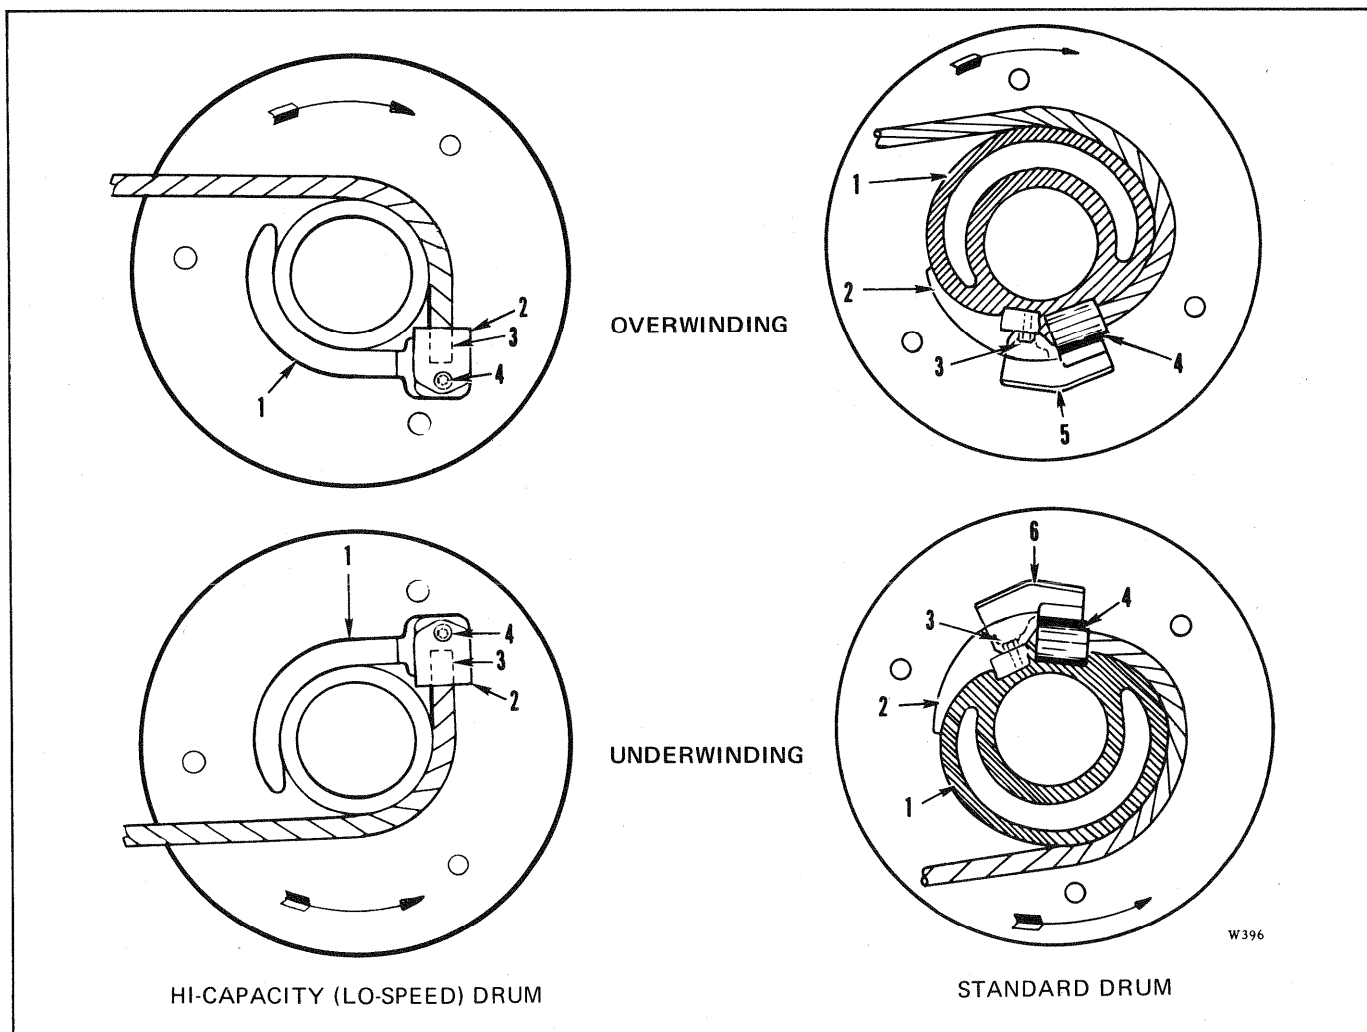

FIGURE 4-9. WINCH DRUM OVERWIND AND UNDERWIND ARRANGEMENT
4-18. Drum Assembly Arrangement. (See Figure 4-9.) The cable on the drum must be anchored and wound in the opposite direction for overwind operation. To setup the drum for overwind operation, follow procedure a for Hi-Capacity (Lo-Speed) drum and procedure b for standard drum:
b. **Automatic Brake (Optional).** (See Figure 4-9.) Interchange position of brake band pins **A** and **B** per procedure a above. Remove the automatic brake assembly and reinstall so that the word UNDERWINDING IS facing to the outside.